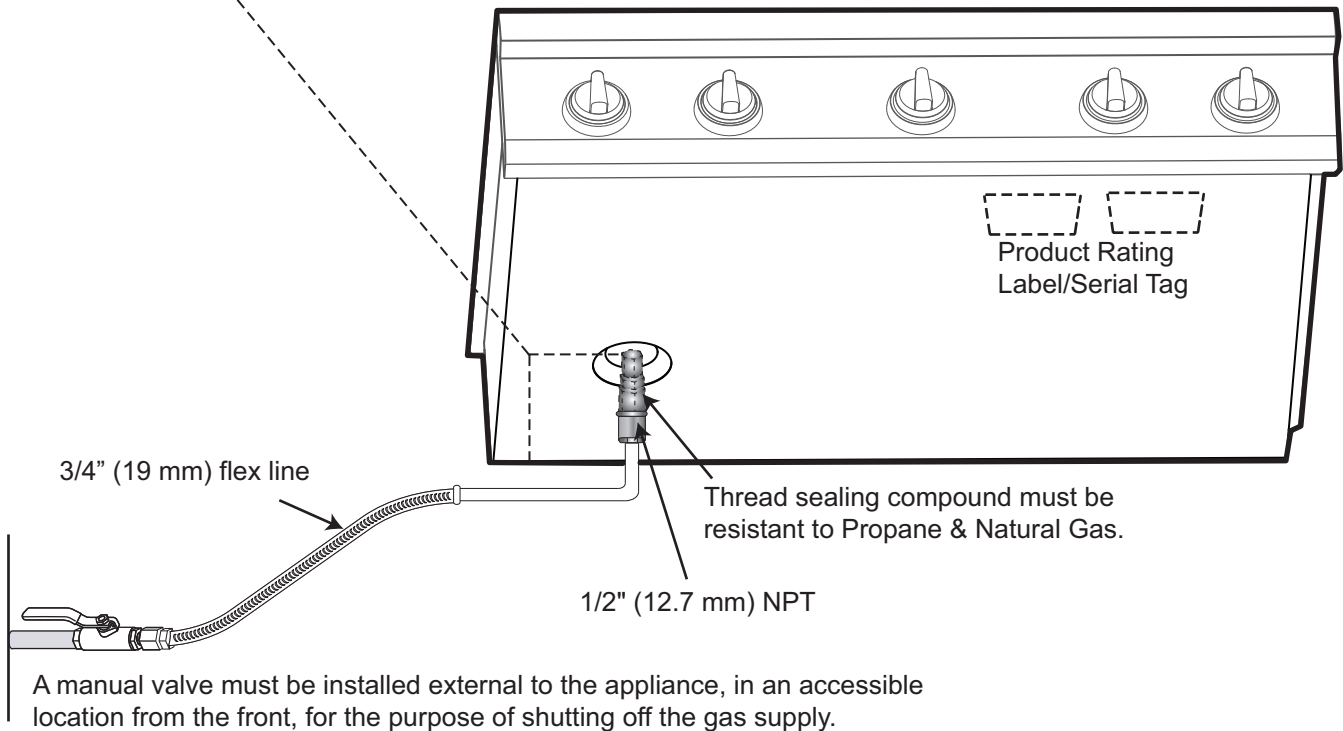

Figure 9: Bottom of Unit
5. The gas and electrical supply must be located in an area that is accessible without requiring removal of the rangetop. The appliance electrical power cord and gas pipe connection are located as shown in *Figure 5* and *Figure 9*, respectively.